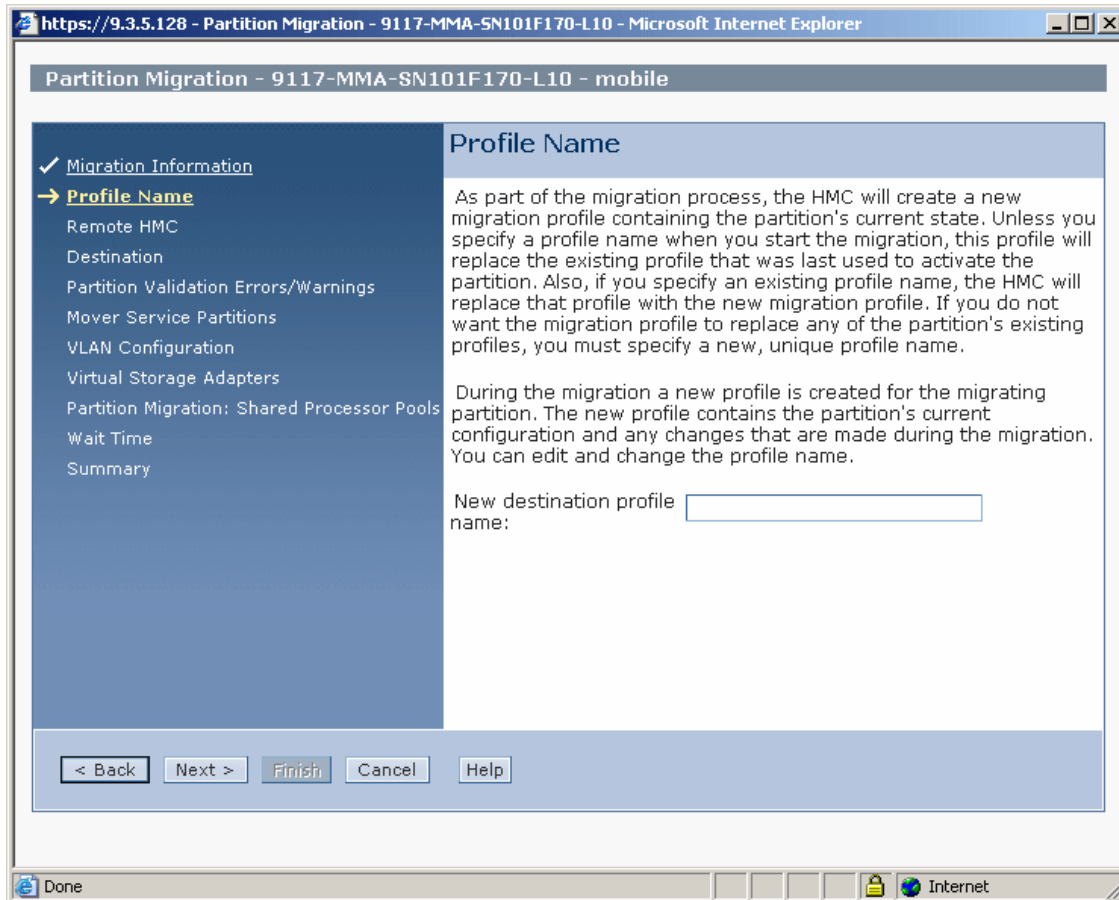

Figure 14-10 Specifying the profile name on the destination system
5. You can specify the New destination profile name in the Profile Name window, as shown in Figure 14-10.